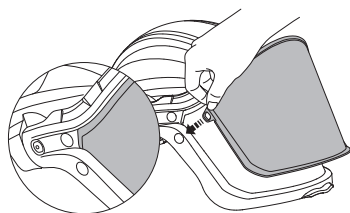
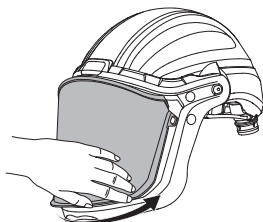
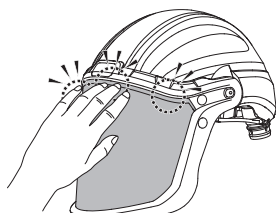
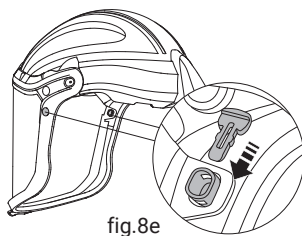

fig.8a
fig.8b
fig.8d
fig.8e
- Put the one side of the visor into the slot (See fig.8a) and then put the other side of the visor into the slot (See fig.8b / 8c). Press the center of the top edge of the visor inward from the outer side until you hear a "click" sound to fix the visor (See fig.8d). Place the buckles in the position shown and slide down the latches firmly until you hear a "click" sound (See fig.8e).